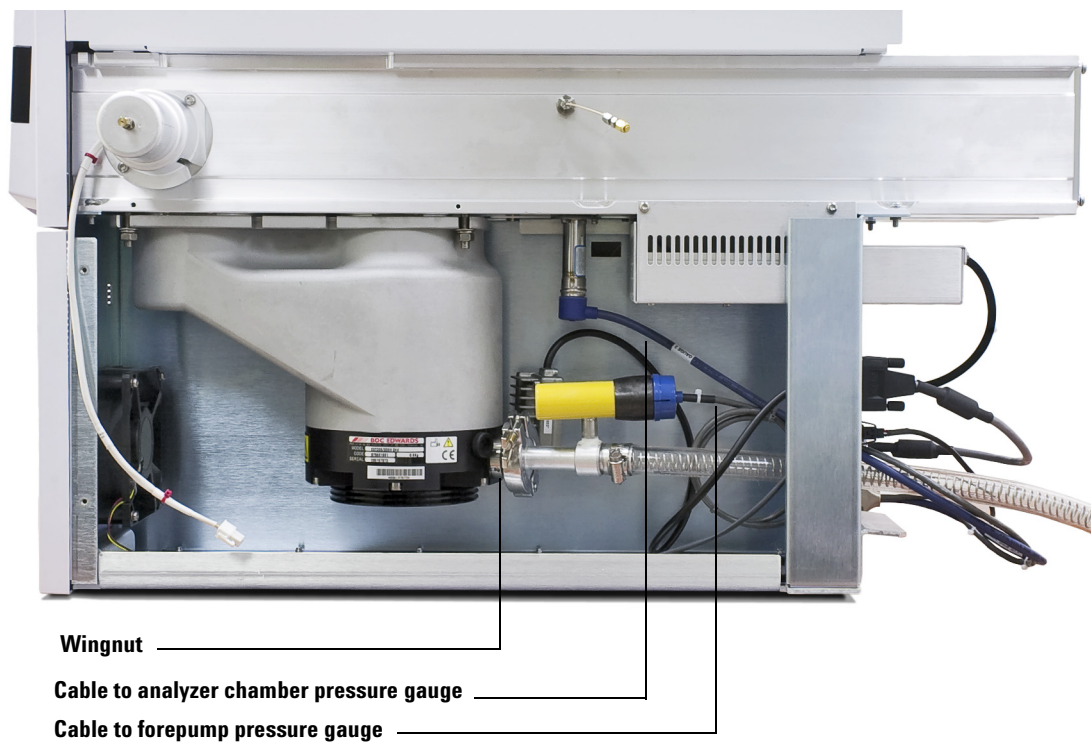

Figure 8 Ion vacuum gauge cables
- 2 The chamber ion gauge is under the collision cell area. See Figure 8.
- 4 Unscrew the large wingnut on the gauge clamp. See Figure 8.